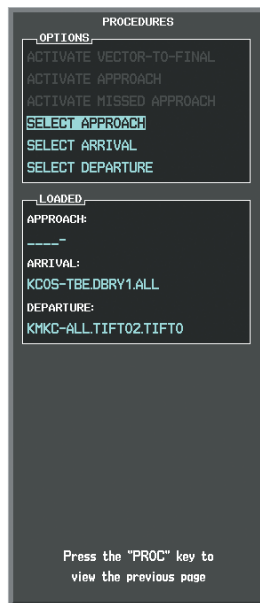

Figure 5-132 Procedures Window
b) 'SELECT APPROACH' should be highlighted as shown in Figure 5-132.